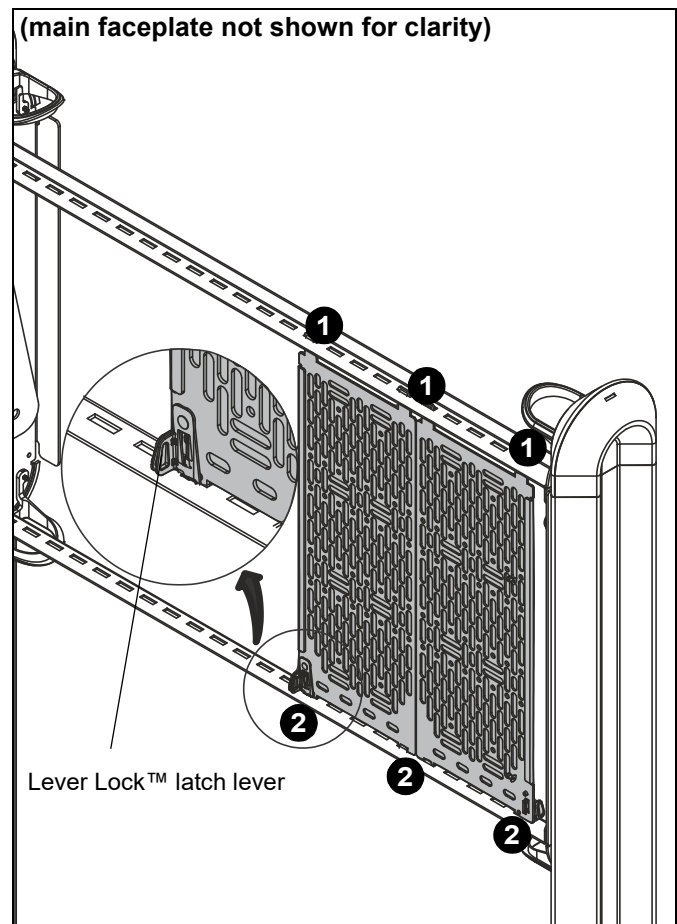

Figure 12
1. Slide Lever Lock™ backplanes (T) into slots on top of faceplate assembly. (See Figure 12)
2. Slide Lever Lock™ backplanes (T) into top slots on faceplate assembly, making sure they "click" into place pressing Lever Lock™ latch lever. (See Figure 12)